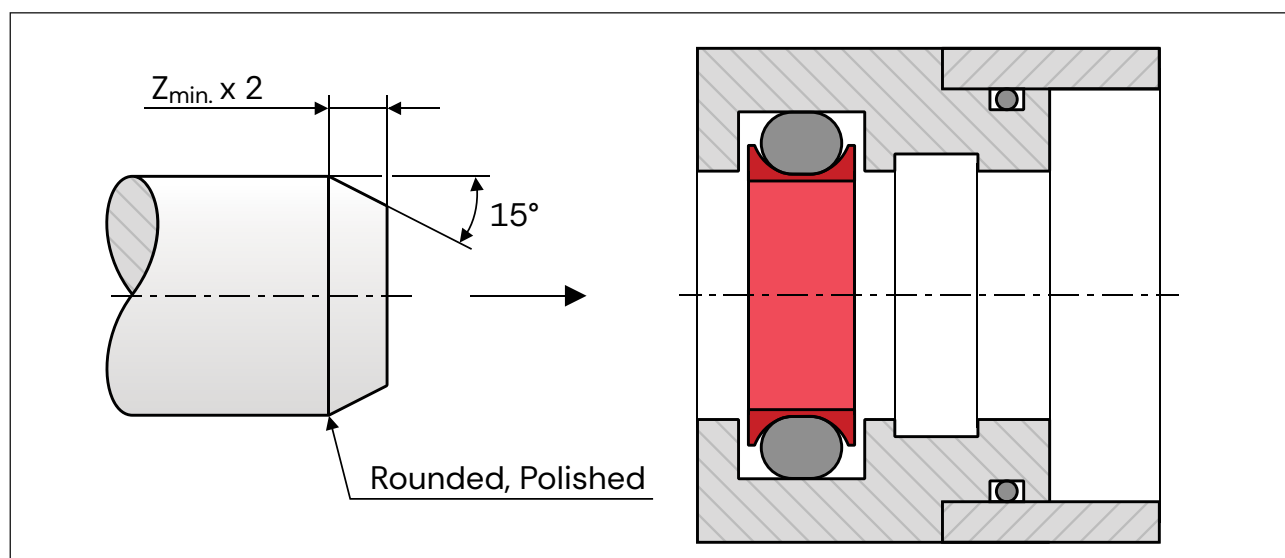

Figure 21: Calibration of a HaaCap seal once installed.
- Lastly, size the seal ring using a calibration mandrel (see figure 21), which should have a chamfer angle of 15° over a minimum length of twice the lead-in chamfer length Z_{\min} , as specified in table 5. This chamfer facilitates the correct positioning of the seal without causing deformation or wear.